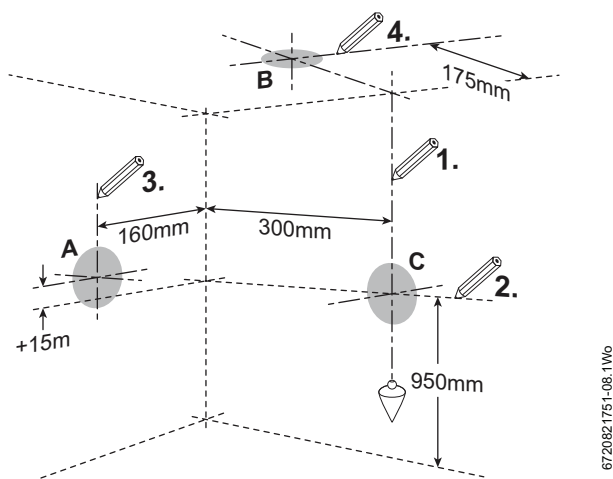

Fig. 28
- Refer to figure 28 and mark the centre of the flue [1 & 2] for rear opening, [2 & 3] for side opening or [1 & 4] for top opening.